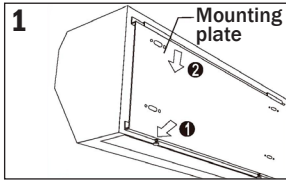

Figure 1
1. Remove the fixing screw of the mounting plate, and then remove the mounting plate, as shown in Figure 1.